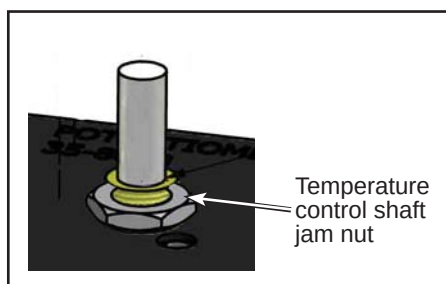

Figure 2 - Temperature Control Shaft Jam Nut
1.3. If necessary, tighten the temperature control shaft jam nut to firmly lock the potentiometer in place. See Figure 2. **DO NOT OVERTIGHTEN.**